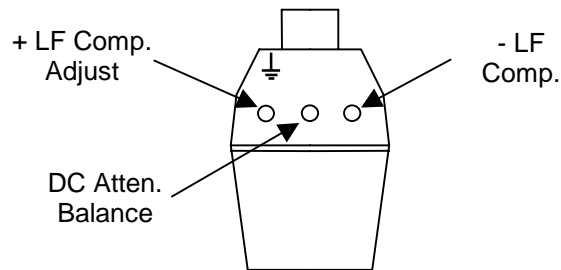

Figure 8. +10 Attenuator Adjustment Locations
11. Using the square adjustment tool, adjust the **+LF Comp** (See Figure 8) to achieve the best square corner and flat top of the displayed waveform. Note that the added capacitance of the adjustment tool may change the compensation of the waveform when it is inserted into the adjustment. The correct adjustment is achieved when the best corner is displayed with the adjustment tool removed.
15. The displayed waveform is the common mode feedthrough. Using the adjustment screwdriver with the flat blade, adjust the DC Atten. Balance (See Figure 8) to minimize the amplitude of the flat portions of the displayed waveform. This adjustment only affects the flat portions of the square wave. Do not be concerned with any overshoot at the transitions.
18. Using the 0.025 in. square adjustment tool, adjust the **–LF Comp** (See Figure 8) to minimize the amplitude of overshoot